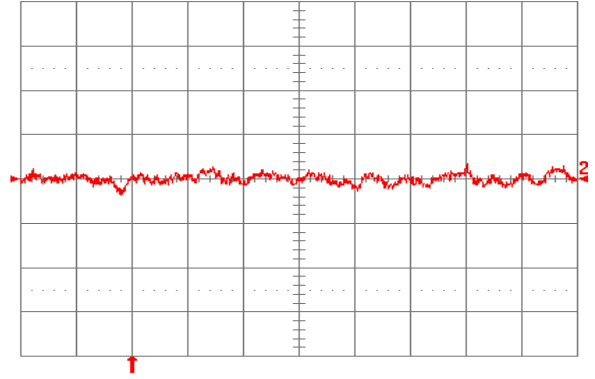

**Fig. 1.5V.14:** Test Setup for measuring input reflected ripple currents,  $i_c$  and  $i_s$ .
**Fig. 1.5V.1:** Available load current vs. ambient air temperature and airflow rates for SQ48T15015 converter with D height pins mounted vertically with  $V_{in} = 48\text{ V}$ , air flowing from pin 3 to pin 1, and maximum FET temperature  $\leq 120^\circ\text{C}$
**Fig. 1.5V.2:** Available load current vs. ambient air temperature and airflow rates for SQ48T15015 converter with D height pins mounted horizontally with  $V_{in} = 48\text{ V}$ , air flowing from pin 3 to pin 1, and maximum FET temperature  $\leq 120^\circ\text{C}$ .
**Fig. 1.5V.3:** Available load current vs. ambient air temperature and airflow rates for SQ48S15015 converter mounted vertically with  $V_{in} = 48$  V, air flowing from pin 3 to pin 1, and maximum FET temperature  $\leq 120$  °C.
**Fig. 1.5V.4:** Available load current vs. ambient air temperature and airflow rates for SQ48S15015 converter mounted horizontally with  $V_{in} = 48$  V, air flowing from pin 3 to pin 1, and maximum FET temperature  $\leq 120$  °C.
**Fig. 1.5V.5:** Efficiency vs. load current and input voltage for SQ48T/S15015 converter mounted vertically with air flowing from pin 3 to pin 1 at a rate of 300 LFM (1.5 m/s) and  $T_a = 25$  °C.
**Fig. 1.5V.6:** Efficiency vs. load current and ambient temperature for SQ48T/S15015 converter mounted vertically with  $V_{in} = 48$  V and air flowing from pin 3 to pin 1 at a rate of 200 LFM (1.0 m/s).
**Fig. 1.5V.7:** Power dissipation vs. load current and input voltage for SQ48T/S15015 converter mounted vertically with air flowing from pin 3 to pin 1 at a rate of 300 LFM (1.5 m/s) and  $T_a = 25^\circ\text{C}$ .
**Fig. 1.5V.8:** Power dissipation vs. load current and ambient temperature for SQ48T/S15015 converter mounted vertically with  $V_{in} = 48\text{ V}$  and air flowing from pin 3 to pin 1 at a rate of 200 LFM (1.0 m/s).
**Fig. 1.5V.9:** Turn-on transient at full rated load current (resistive) with no output capacitor at  $V_{in} = 48\text{ V}$ , triggered via ON/OFF pin. Top trace: ON/OFF signal (5 V/div.). Bottom trace: output voltage (0.5 V/div.). Time scale: 2 ms/div.
**Fig. 1.5V.10:** Turn-on transient at full rated load current (resistive) plus 10,000  $\mu\text{F}$  at  $V_{in} = 48\text{ V}$ , triggered via ON/OFF pin. Top trace: ON/OFF signal (5 V/div.). Bottom trace: output voltage (0.5 V/div.). Time scale: 2 ms/div.
**Fig. 1.5V.11:** Output voltage response to load current step-change (3.75 A – 7.5 A – 3.75 A) at  $V_{in} = 48$  V. Top trace: output voltage (100 mV/div.). Bottom trace: load current (5 A/div.). Current slew rate: 0.1 A/ $\mu$ s.  $C_o = 1$   $\mu$ F ceramic. Time scale: 0.2 ms/div.
**Fig. 1.5V.12:** Output voltage response to load current step-change (3.75 A – 7.5 A – 3.75 A) at  $V_{in} = 48$  V. Top trace: output voltage (100 mV/div.). Bottom trace: load current (5 A/div.). Current slew rate: 5 A/ $\mu$ s.  $C_o = 450$   $\mu$ F tantalum + 1  $\mu$ F ceramic. Time scale: 0.2 ms/div.
**Fig. 1.5V.13:** Output voltage ripple (20 mV/div.) at full rated load current into a resistive load with  $C_o = 10$   $\mu$ F tantalum + 1  $\mu$ F ceramic and  $V_{in} = 48$  V. Time scale: 1  $\mu$ s/div.
**Fig. 1.5V.15:** Input reflected ripple current,  $i_c$  (100 mA/div.), measured at input terminals at full rated load current and  $V_{in} = 48$  V. Refer to Fig. 1.5V.14 for test setup. Time scale: 1  $\mu$ s/div.
**Fig. 1.5V.16:** Input reflected ripple current,  $i_s$  (10 mA/div.), measured through 10  $\mu$ H at the source at full rated load current and  $V_{in} = 48$  V. Refer to Fig. 1.5V.14 for test setup. Time scale: 1  $\mu$ s/div.
**Fig. 1.5V.17:** Output voltage vs. load current showing current limit point and converter shutdown point. Input voltage has almost no effect on current limit characteristic.
**Fig. 1.5V.18:** Load current (top trace, 20 A/div., 20 ms/div.) into a 10  $m\Omega$  short circuit during restart, at  $V_{in} = 48$  V. Bottom trace (20 A/div., 1 ms/div.) is an expansion of the on-time portion of the top trace.